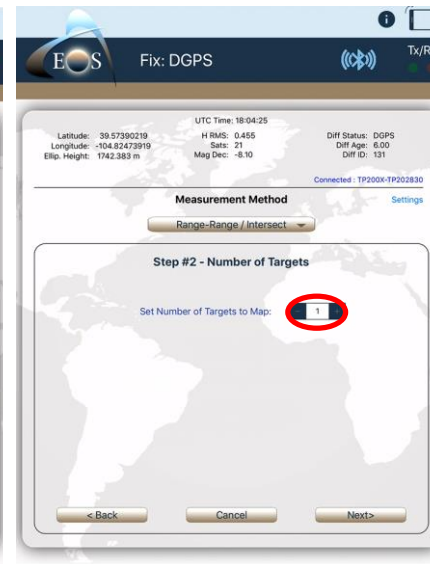

Figure 11A
- 11A. **Step #2:** Increase or decrease the **Number of Targets** (Figure 11A) and tap **Next**